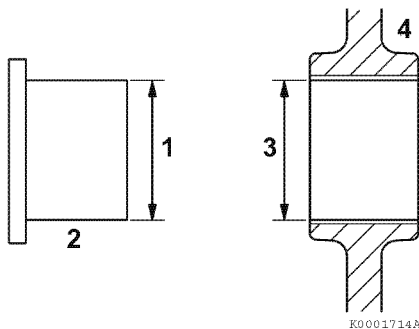

Figure 6-127
1. Measure the outside diameter (1, **Figure 6-127**) of the idler gear shaft (2, **Figure 6-127**). *See Idler Gear Shaft and Bushing on page 6-10 for specifications.*
2. Measure the inside diameter (3, **Figure 6-127**) of the idler gear bushing (4, **Figure 6-127**). *See Idler Gear Shaft and Bushing on page 6-10 for specifications.*